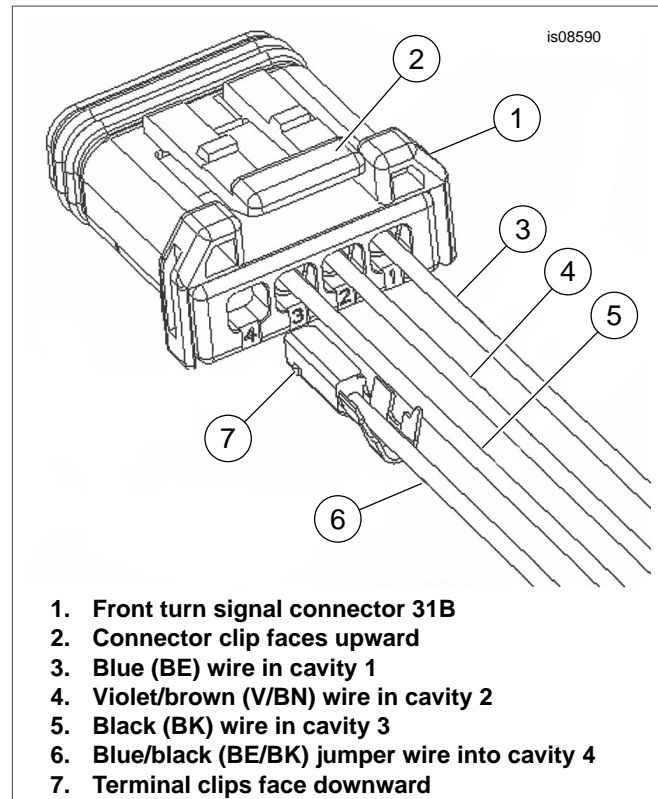

Figure 6. Insert Jumper Terminal Into Cavity 4
8. See Figure 6. Insert a fog lamp jumper wire harness (6) from the kit into cavity 4 of connector [31B].